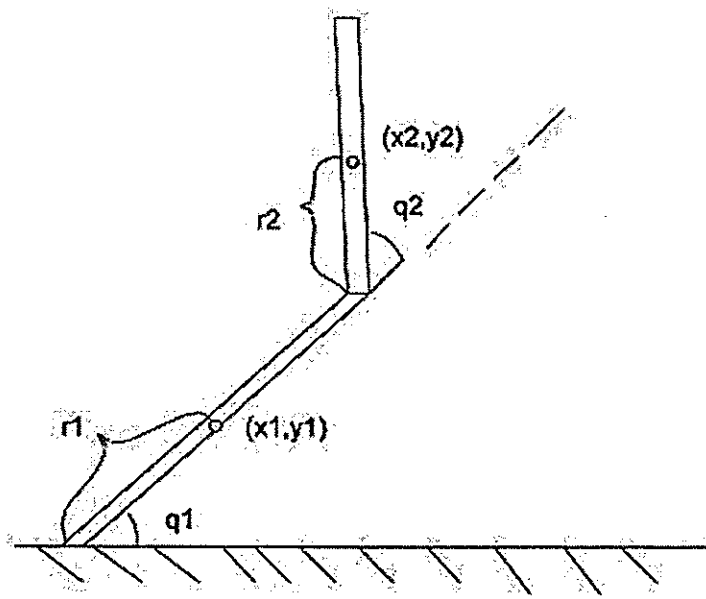

Figure 3.
- ii. Derive the dynamic equation for a two-link revolute joint arm using the L-E method as shown in Figure 3.